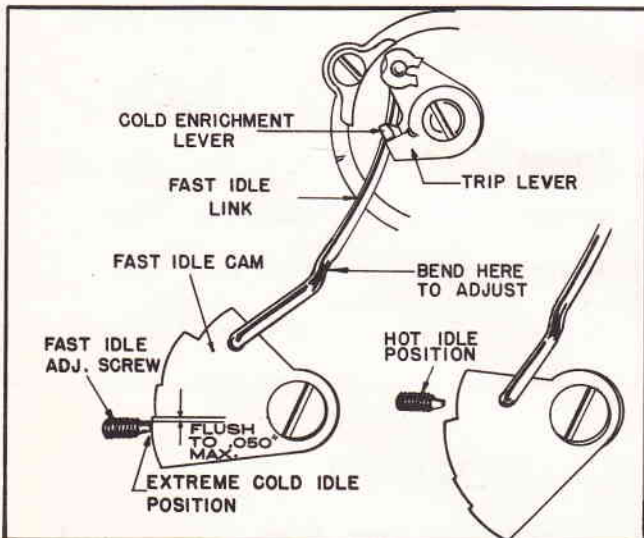

Fig. 4 Fuel Injection Fast Idle Link Adjustment
3. As shown in Fig. 4, the screw should be on the high step of the cam and from flush to .050" from the step.